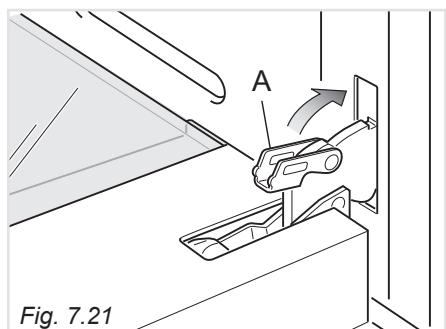

Fig. 7.21
4. Fully close the levers “A” on the left and right hinges, as shown in the figure 7.21.